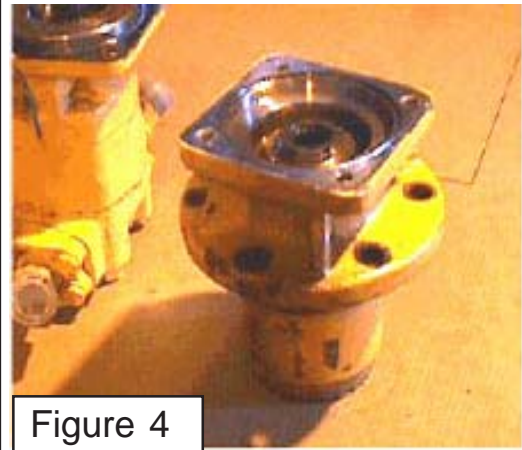

Figure 4
2. Inspect the housing for cracks or other damage, which would deem it unusable. (figure 4)